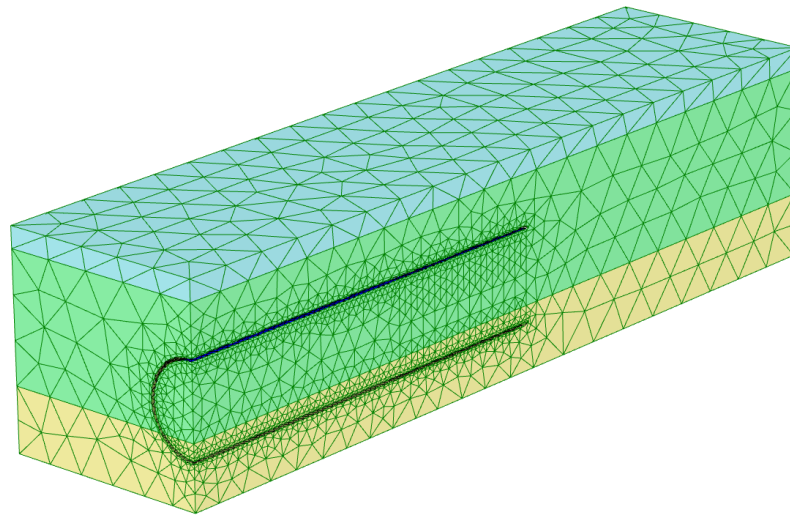

Figure 78: The generated mesh
2.  Click the **View mesh** button to inspect the generated mesh(Figure 78 (on page 105)).